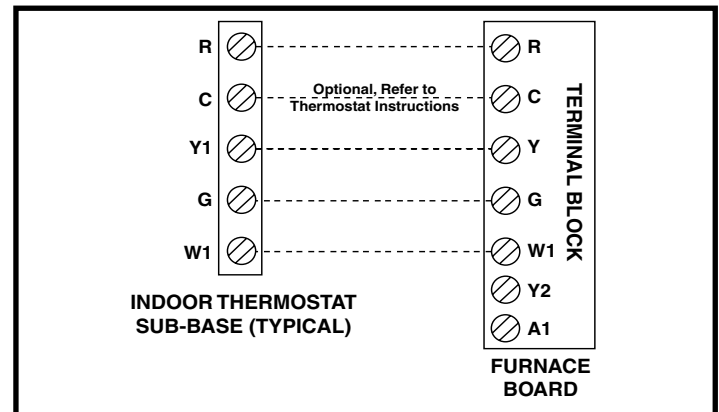

Figure 6. Typical Thermostat Connection (Field Supplied) for 1-Stage Cool / 1-Stage Heat
- This unit is designed to operate from a 24 VAC Class II control circuit. A single stage cooling / single stage heating thermostat should be used with this unit. A 2-stage cooling / 2-stage heating thermostat is recommended for economizer operation. See Figure 6 \(page 11\) for typical thermostat connection.